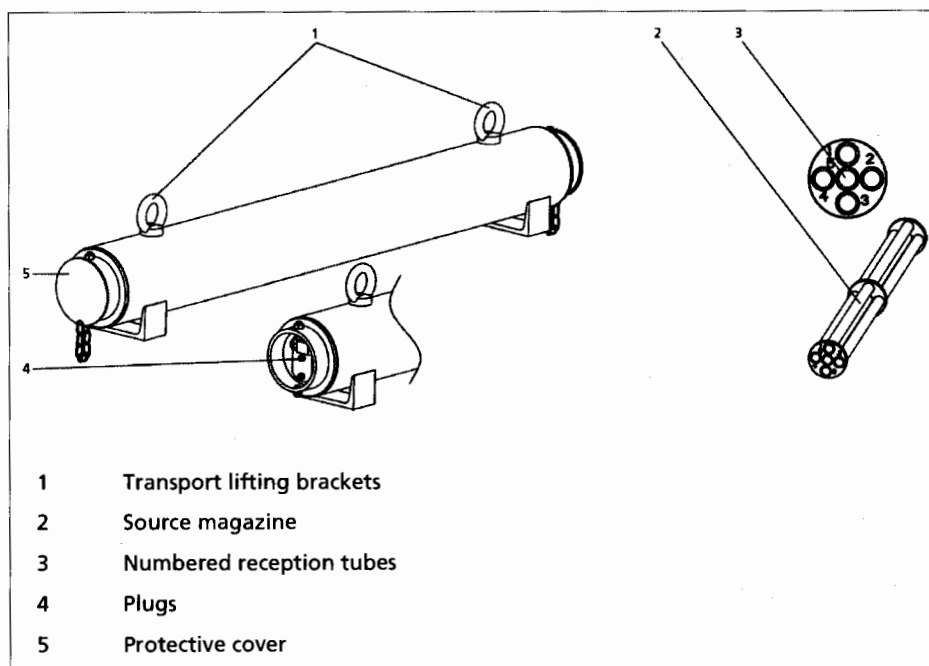

Fig. 3 Structure of the transport shielding
A transport shielding consists of an internal and an external tube. The shielding material is located between the two tubes. The sources are kept in the internal tube. The transport shielding is sealed on both ends by means of an easily removable plug (Fig. 3, pos. 4). These plugs are secured against unintentional and/or unauthorised opening by means of a safety screw and a padlock.
For protection against damage or contamination, both ends are equipped with protective covers (Fig. 3, pos. 5). Optionally, a source magazine (Fig. 3, pos. 2) is available as insert for transport shieldings. The five reception tubes of the magazine are numbered and enable an easier identification of the source.